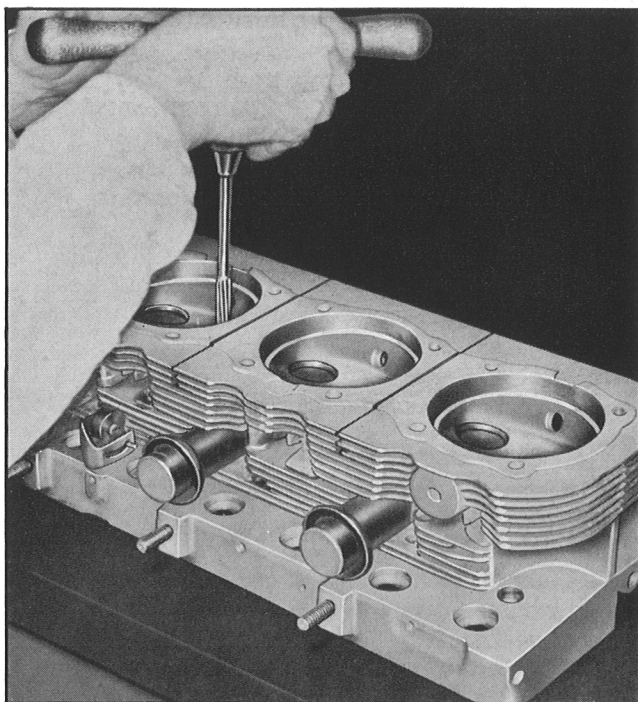

Fig. 2—Reaming Cylinder Head Valve Guide Bore
- b. If some damage in bore is evident, ream bore with .010" oversize J-21282 Hand Reamer starting at the combustion chamber side and flushing with cutting oil to avoid scoring (Fig. 2). Do not force or remove reamer during ream-